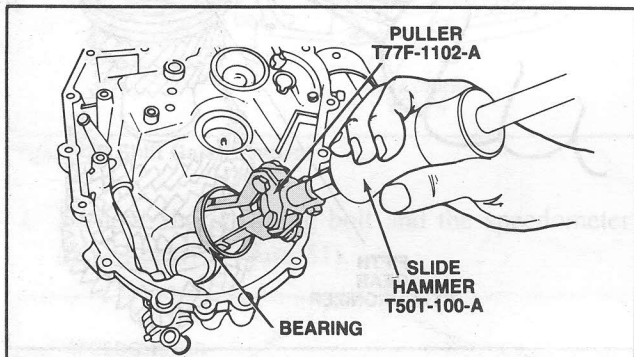

Figure 59 Differential Bearing Cup Removal
- Differential Bearing Cups (Figure 59).